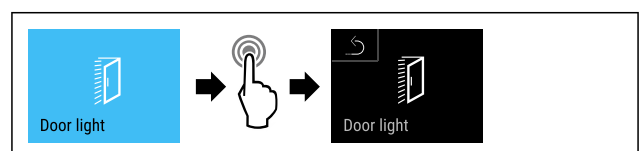

Fig. 72
- ▶ Complete the steps (see Fig. 72) .